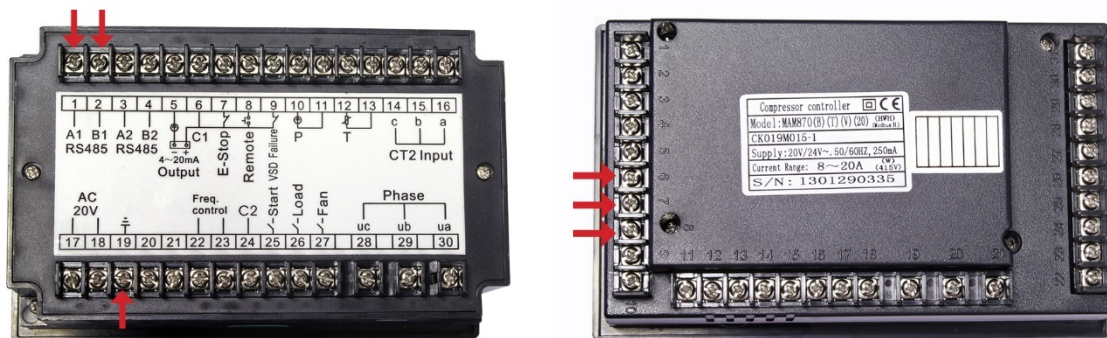

Figure C-1 Rear View of MAM-660 (Left) and MAM-870 (Right) Controllers
- (b) Locate terminals 6, 7 and 8 on the rear of each MAM-870 Controller. Also, locate terminals 1, 2 and 19 on each MAM-660 Controller, if any. Refer to Figure C-1.